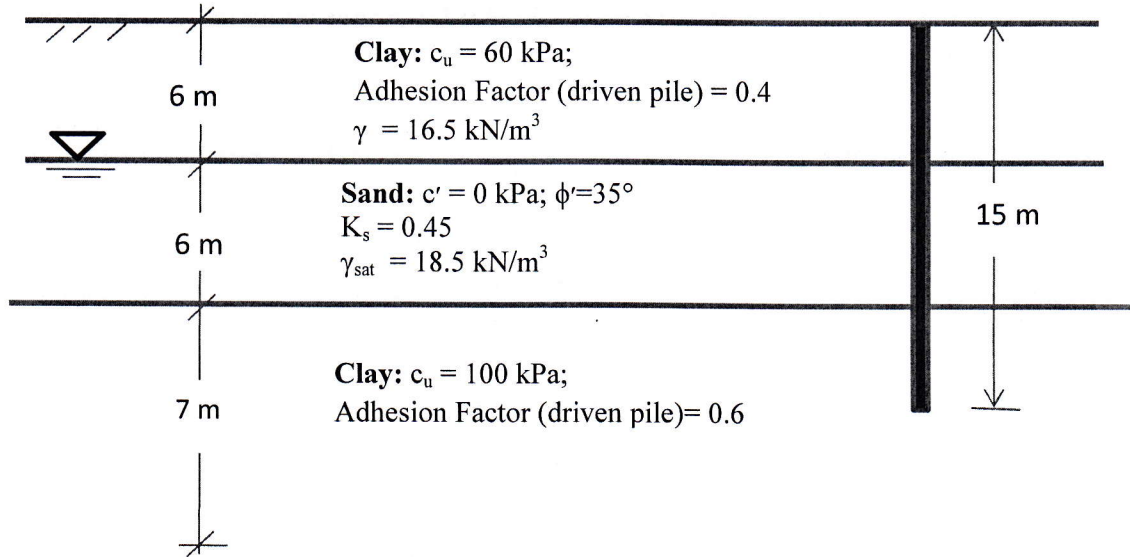

Figure 1
1. Determine the ultimate capacity of a 600 mm diameter concrete bored pile, shown in the soil profile (Figure 1). Assume critical depth = 20D. the pile-soil friction angle = $0.75\phi'$.